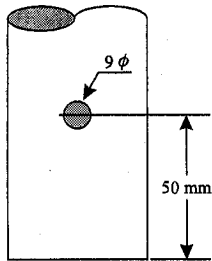

Figure 9
1. Drill a 9 mm diameter hole through both walls of the mast, centered 50 mm from the mast bottom (see Figure 9). Ensure the drill is maintained perpendicular and centered when marking the holes, to ensure proper alignment of the holes in the mast with those in the base support clamp.